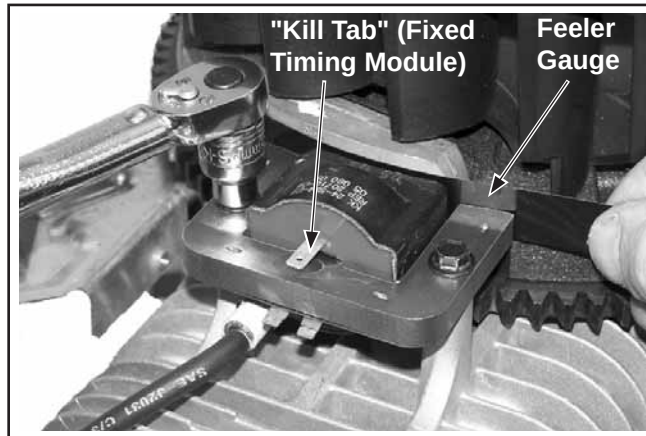

Figure 10-55. Setting Ignition Module Gap.
On engines equipped with a Fixed Ignition System, the modules are installed with the spark plug lead from the module always away from the cylinder. On #1 cylinder, the single kill tab should be up/towards you. See Figure 10-55. On the #2 cylinder, the single kill tab should be down/away from you.
5. Insert a 0.30 mm (0.012 in.) flat feeler gauge between the magnet and the ignition module (see Figure 10-55). Loosen the screws enough to allow the magnet to pull the module against the feeler gauge.